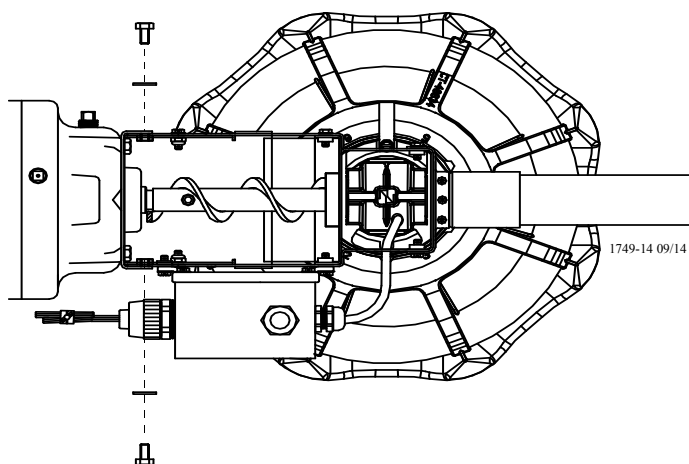

Figure 50. Attaching the Anchor Plate and Gearhead Assembly to the Control Unit Body
7. Attach the Anchor Plate and Gearhead Assembly to the Control Unit Body using the included 1/4" Lock Washers and 1/4-20 x 1/2" Bolts. See **Figure 50**.